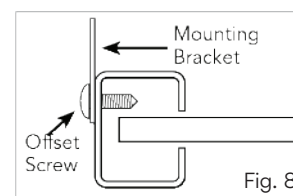

Fig. 8
Cut away 15 x 20mm from screen edge if attaching through C-channel as in Fig. 8 & 10
- Attach the flat brackets to the C-Channel using screws or rivets ensuring that the screws are offset from the centre of the C-Channel (**Fig. 8**) so that they do not interfere with the thermal expansion of the panel. Position the brackets so they don't interfere with the pins.